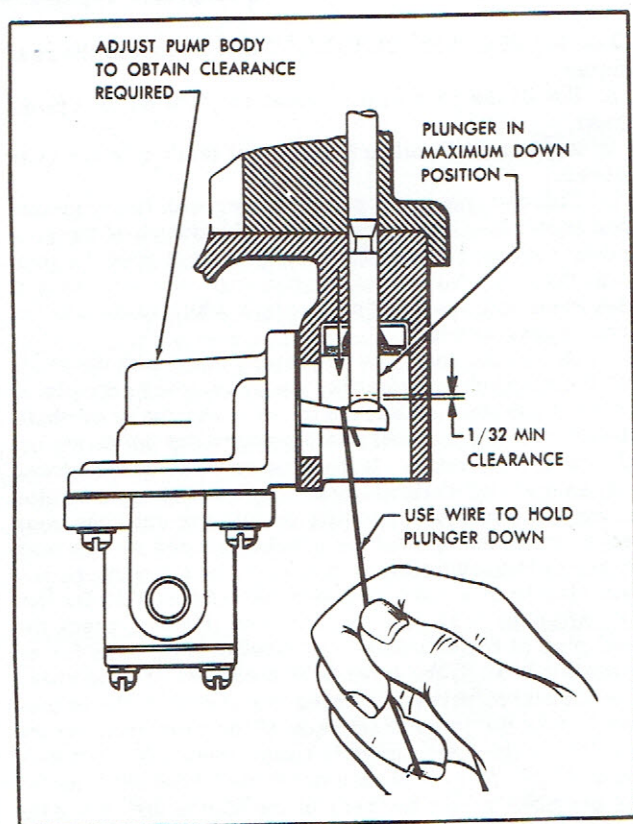

Figure 9-3. Adjusting Fuel Pump
d. The fuel pump should be so installed that a free movement of the pump arm of 1/32-inch over the required maximum stroke position is obtained when the fuel pump arm is in its maximum position. This can be determined by hooking the fuel pump arm with a wire hook and observing if any additional movement is present at full outward stroke position. (See figure 9-3.) Do not mistake springing of the fuel pump arm for free movement.